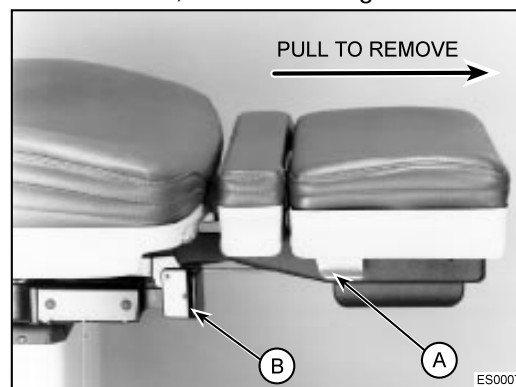
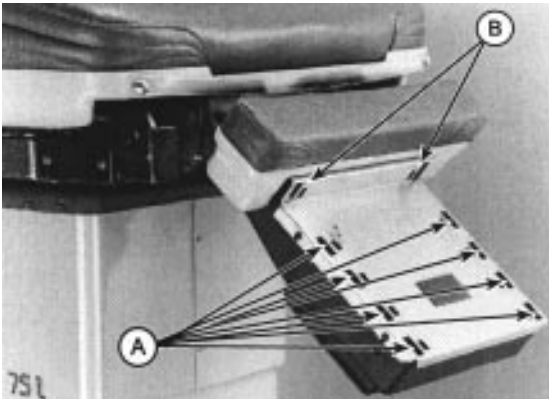
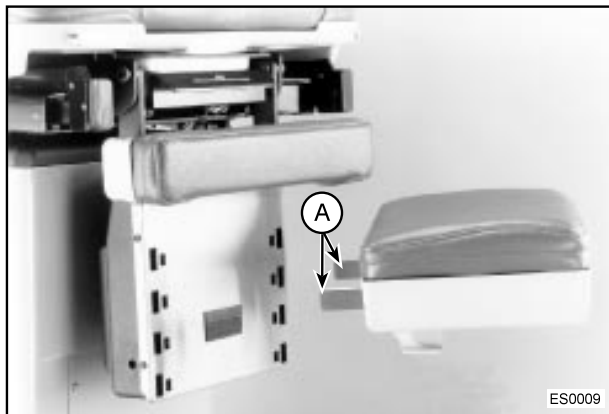
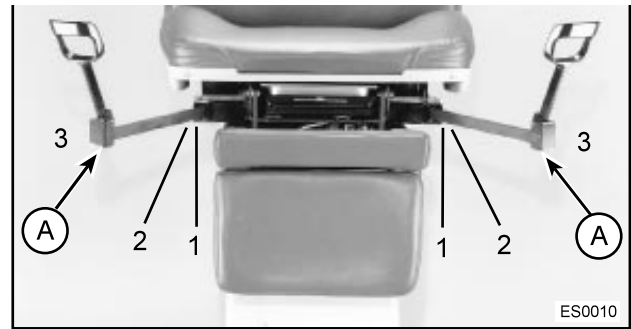

FIGURE 7
FIGURE 8
FIGURE 9
FIGURE 10
The stored position of the procto knee rest is illustrated in Figure 7. To remove the knee rest, lift levers (A, Figure 7), on each side of the knee rest, to unlock and pull away from the table, as shown in Figure 7.
The foot/leg section provides four (4) procto knee rest positions (A, Figure 8). To install the knee rest into either of these positions, align the metal guides (A, Figure 9) with the slots (A, Figure 8) and insert until you hear or feel the mechanical locking hooks engage. Attempt to
Removal of the knee rest from a procto position is the same as removal from the stored position. Lift the levers (A, Figure 7) on each side of the knee rest to unlock and pull away from the table. To return the knee rest to its stored position, align the metal guides (A, Figure 9) with the slots (B, Figure 8) and insert until you hear or feel the mechanical locking hooks engage. Attempt to remove the knee rest to assure it has been locked into position.
To remove the stirrups from their stored position, grasp the end of the stirrup assembly (B, Figure 7) and pull straight out from the table to full extension. Unfold the stirrup to an erect position, as shown in Figure 10.
The 75L has three (3) lateral positions for both stirrups. To adjust lateral positioning, lift stirrup assembly at point A, Figure 10 and then rotate assembly to right or left. The stirrup mechanism will "click" into position as it is rotated.
When the desired position is attained, lower stirrup (A, Figure 10) to engage width locking mechanism. Check that the lateral (width) locking mechanism is engaged by attempting to rotate stirrup assembly without lifting at point A, Figure 10.
Stirrup extension length is adjusted by holding stirrup at point A, Figure 10 and sliding stirrup assembly in and out of table. Check that the lateral (width) locking mechanism is engaged by attempting to rotate stirrup assembly without lifting at point A, Figure 10.
Extend stirrup assemblies to full extension, fold stirrups down against bar, rotate stirrups into Position #2, Figure 10, lift slightly and slide complete assembly into table.